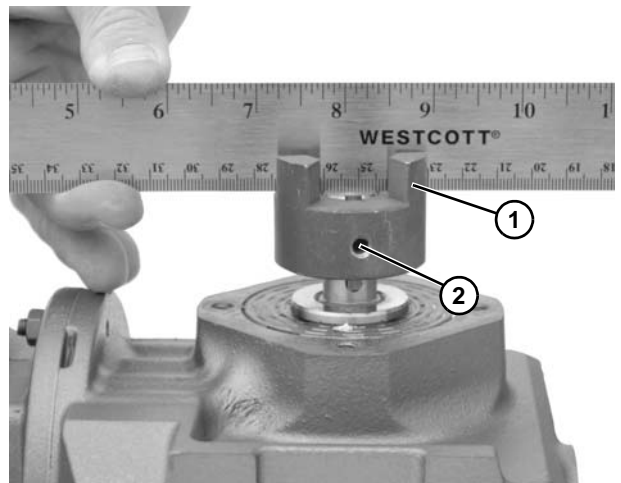

Figure 18
11. Install 3 jaw coupling (**Figure 18, item 1**) so that the shaft is even with the coupling, and tighten set screw (**Figure 18, item 2**) to 45 in-lbs (5 N-m).